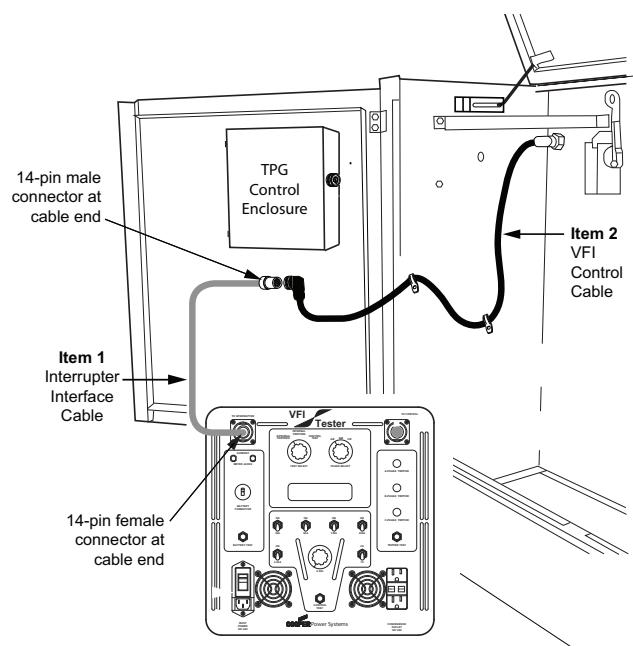

Figure 6. Connection of the VFI tester to side-hinged VFI units with TPG controls for external flux-shift tripper test.
3. Connect the 14-pin female/14-pin male interrupter interface cable (Item 1) to the VFI tester at the interrupter port. Refer to Figure 6 for steps 3 through 17.